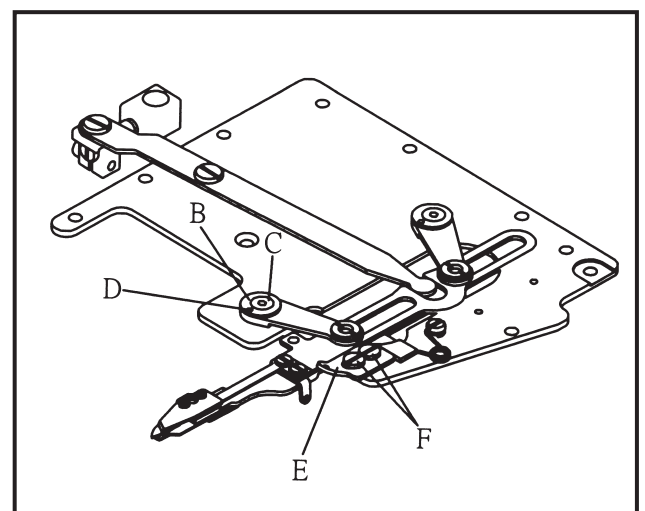

Fig.43
Please loose the screw (C) of Knife Guide Lever Eccentric Ring (B) and turn the Eccentric Ring for regulating the Moving Knife into right position. Please set up the mark (D) of Eccentric Ring to 3 o'clock position in ordinary. (Fig.43)
let the Lower Knife Carrier Guide (E) touch Lower knife Carrier in gently and lock the screw (F) down after the angle of trimmer have been adjusted. (Fig.43)